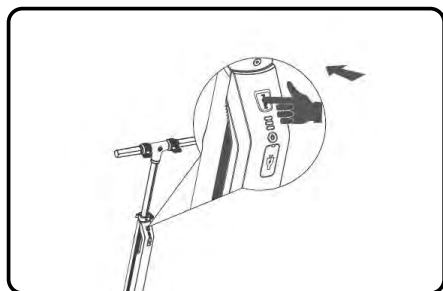

Figure 14
1. Press the button, as shown in figure 14.